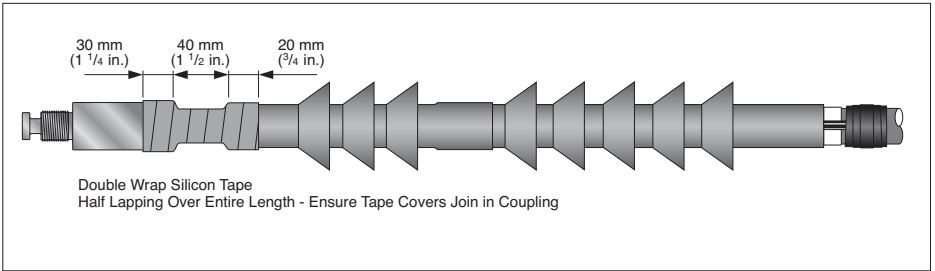

Figure 24.
22. Using the roll of silicone tape (grey), overwrap half layers from 20 mm (¾ in.) over the end of the coldshrink to 30 mm (1 ½ in.) over the coupling so that it covers the joint between the main coupling and compression nut, (refer to figure 24 on page 39).